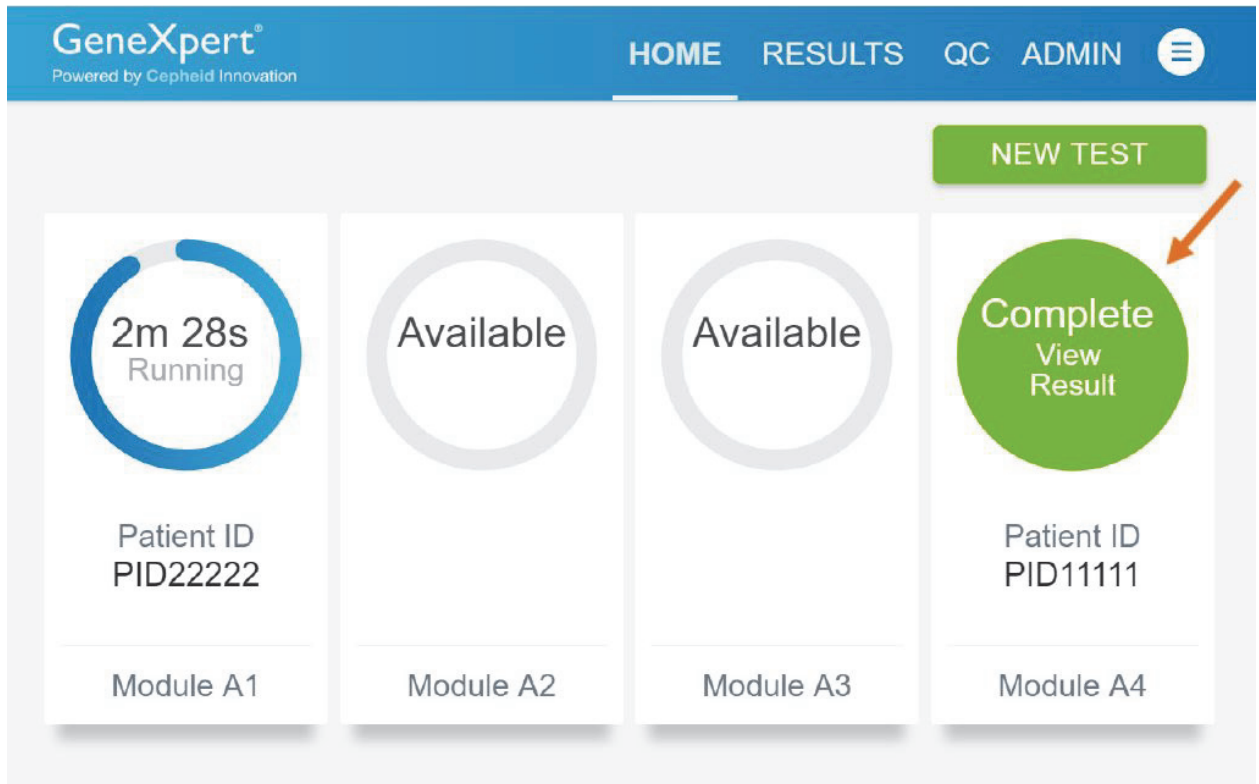
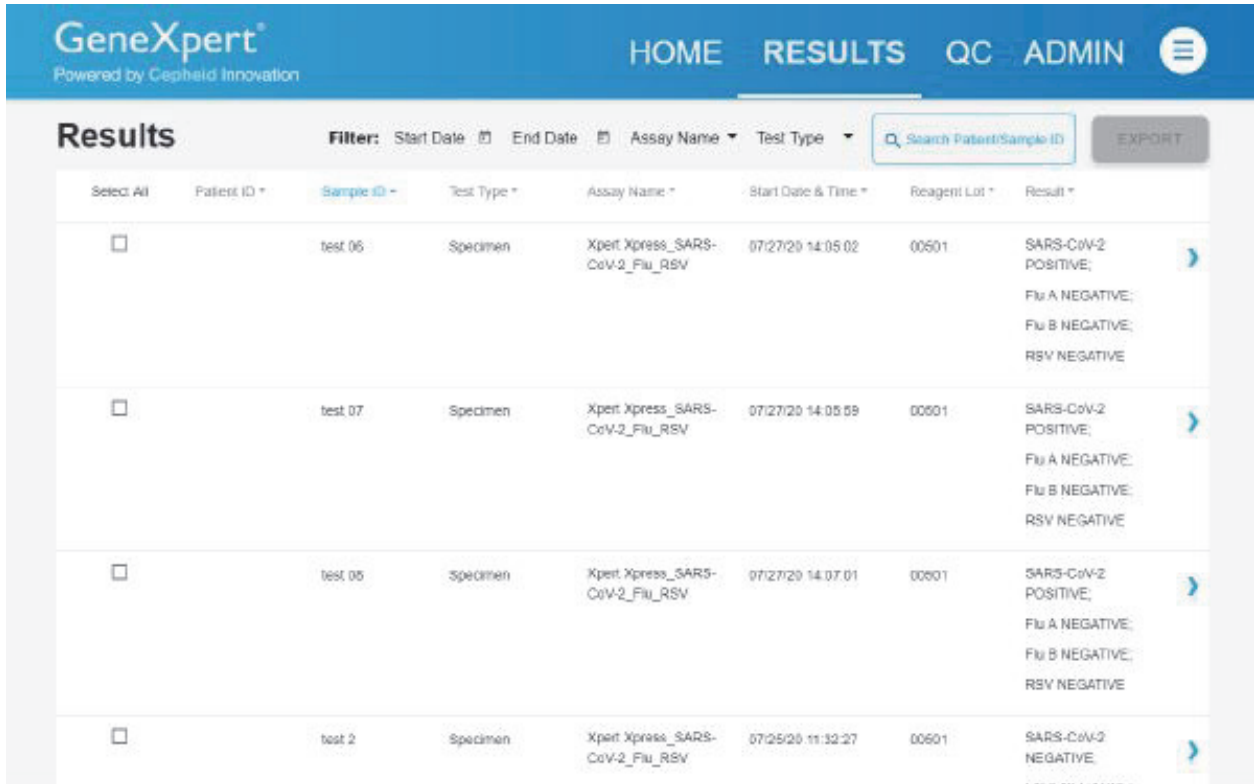

Figure 31. Home Screen with One of Two Tests Completed
Figure 32. Results Screen
- After a test has completed, the module icon text changes to Complete (see Figure 31). Touch **Complete View Result** to view test results.
1. Touch the **RESULTS** button located on the panel at the top of the screen (see Figure 31). The Results screen appears (see Figure 32). Test results are, by default, in order of the date and time that the test was run. Navigate through the test result pages by touching the numbered buttons or arrows at the bottom of the screen.